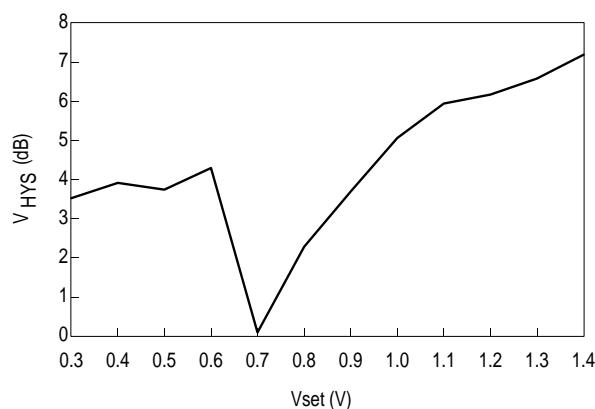

Figure 3. LOS Hysteresis (TA = 25°C)
2. This device has an anomaly in VHYS when 0.65 < VSET < 0.75V. Operation in this region is not recommended. (See Figure 3)